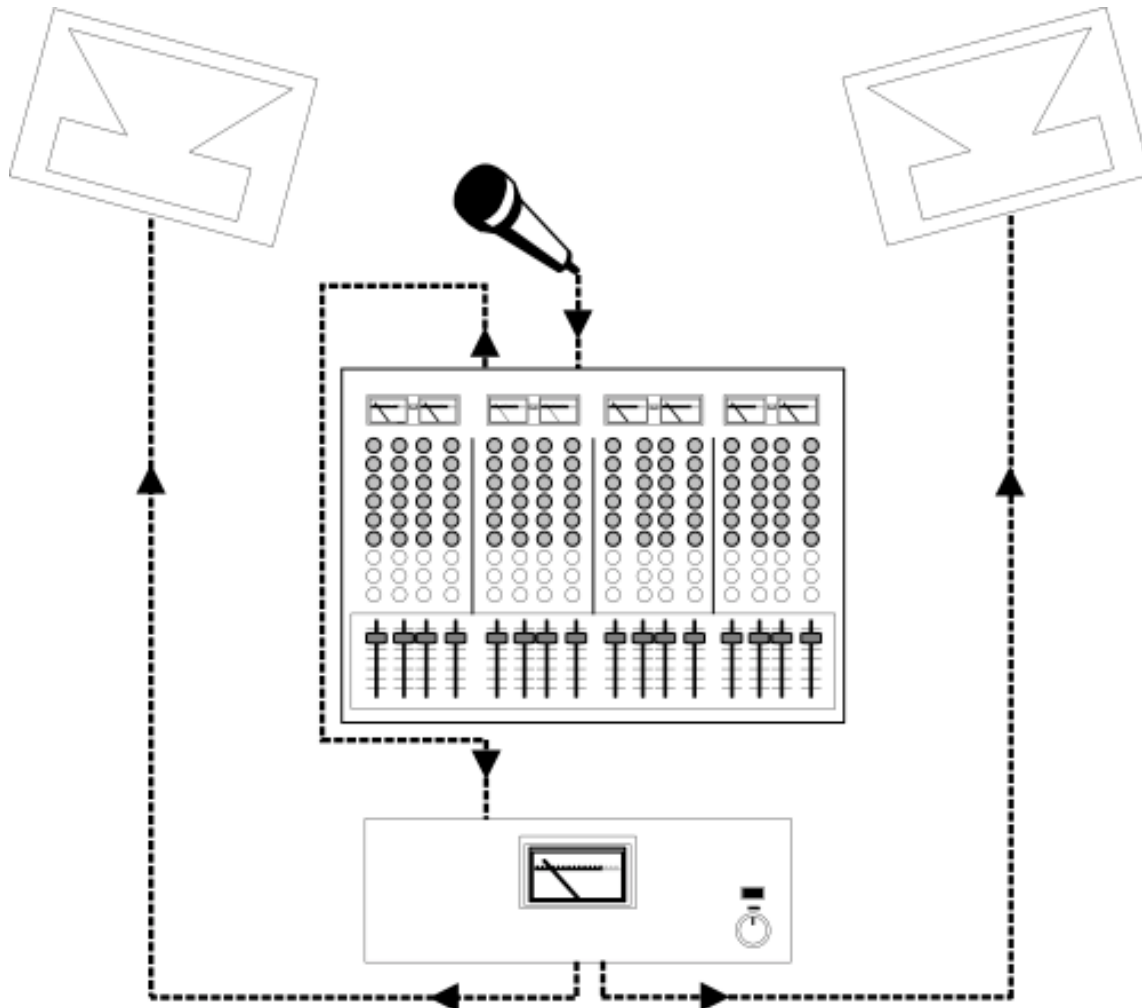

Figure 1.3
- They should be rotated inward, but only slightly. More than a few degrees of rotation can reduce the gain. (See *Figure 1.3.*)
Figure 1.3 shows a typical example of how speakers and a microphone may be positioned to adequately cover the listening area while maximizing the gain before feedback.